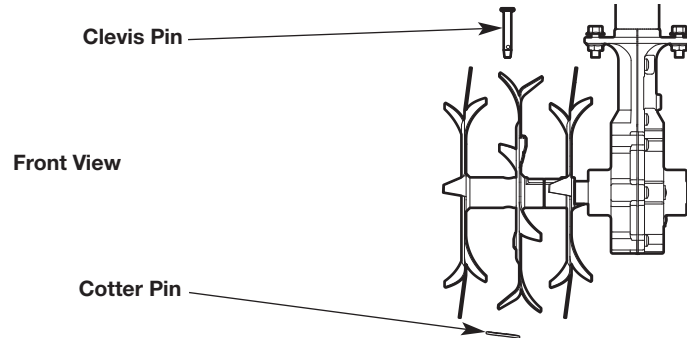

Fig. 13
1. Remove the cotter pin from the clevis pin (Fig. 13). Remove the clevis pin from the double tine and tine shaft.
3. Insert a clevis pin through the aligned holes (Fig. 13). Insert a cotter pin into the clevis pin.